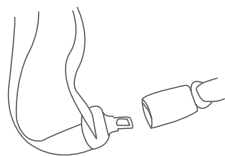

Fig. 43-2
9. A lap/shoulder combination seat belt with **a buckle that can slide freely** along the seat belt may require the use of a locking clip (Fig. 43-2). Check your vehicle's owner's manual to see if the vehicle manufacturer has provided an alternate manner, such as a locking retractor in which to prevent movement of the lap portion of the seat belt.